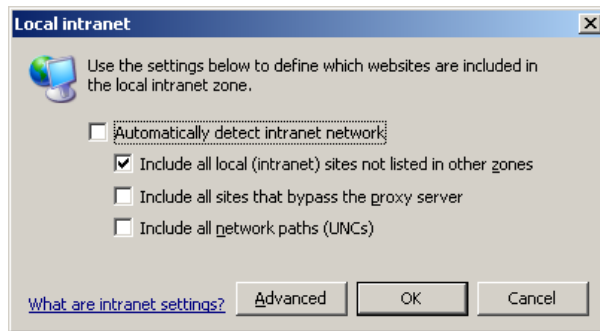

Figure 4. Local Intranet Dialog Box
12. Click **Sites** to open the Local Intranet dialog box (Figure 4).
8. Click **Sites** to open the Local Intranet dialog box (Figure 4).